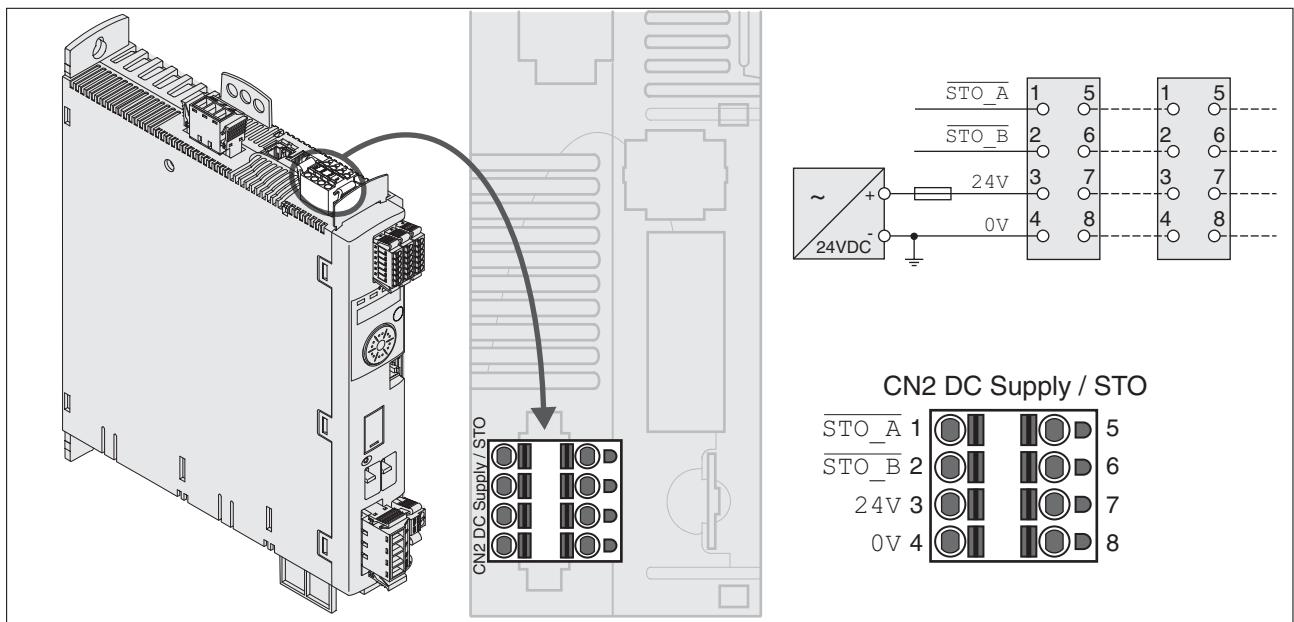

Figure 29: Wiring diagram controller supply
- Connection CN2, pins 3 and 7 as well as CN2, pins 4 and 8 (see Figure 29) can be used as 24V/0V connections for additional consumers.² Note the maximum permissible terminal current ("Properties of spring terminal CN2").